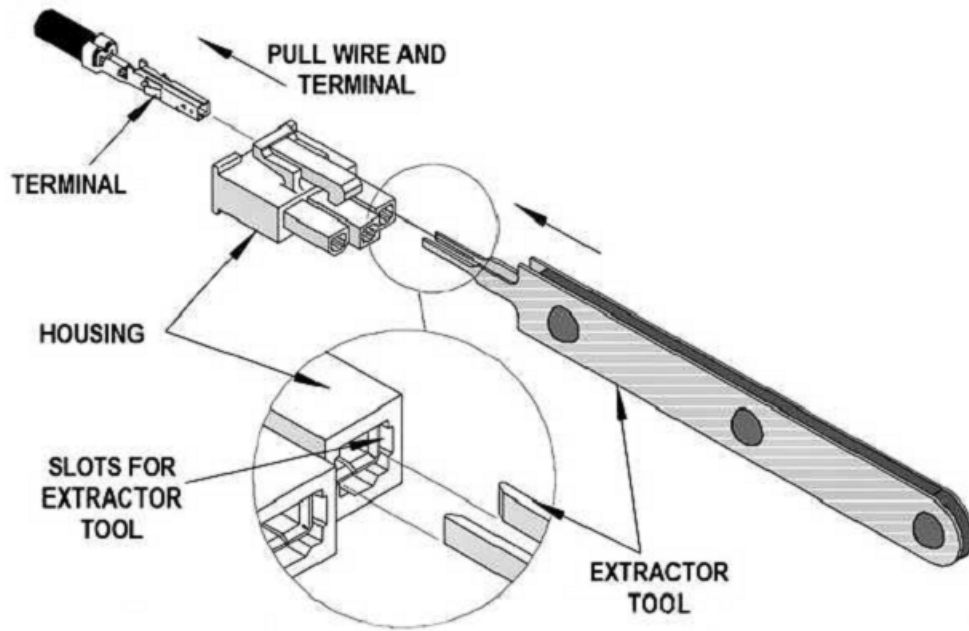

Figure 7 Using Extractor Tool to Remove Wire and Terminal from Connector
3. See Figure 7. Remove red A1 wire at PIN 9 from the power harness (CONN6) using extractor tool.